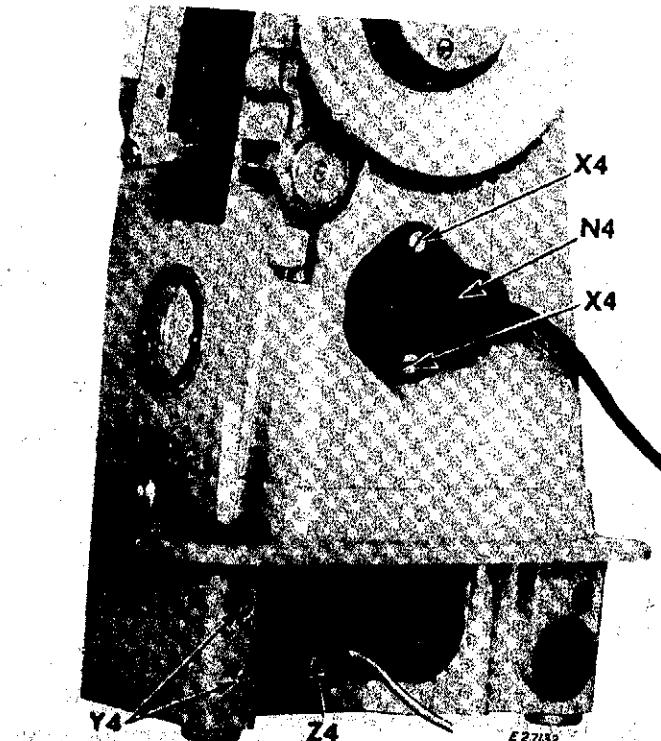

Fig. 305. Terminal Blocks
1. Remove male-half of two-pin terminal Z4, Fig. 305.
2. Remove female-half of three-pin terminal N4, Fig. 305.
5. Remove two screws X4, Fig. 305.
6. Loosen two screws Y4, Fig. 305 and push female-half of two-pin terminal into recess beneath bed of machine.
1. Install both terminals with their wire leads in machine, as shown in Fig. 305.
2. Insert sewing light leads up through cavity provided for them in machine arm, as shown at B5, Fig. 305.
7. Replace female-half of three-pin terminal at N4, Fig. 305.
8. Replace male-half of two-pin terminal at Z4, Fig. 305.